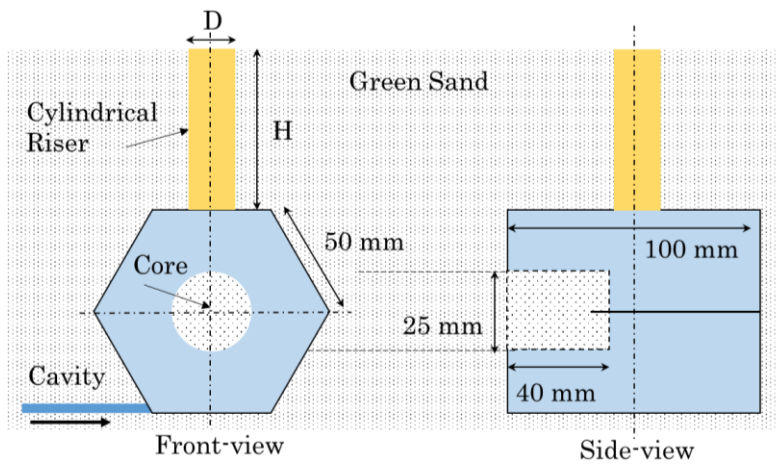

Figure 1. Q1
1. In order to reduce shrinkage-related defects, risers are used in metal casting. In one such case, a regular hexagonal prism-type mould cavity is used on which an open-type cylindrical riser is attached. The side of the hexagonal cavity is 50 mm, while its width is 100 mm (as shown in Figure 1.Q2). A cylindrical core of diameter 25 mm, and length of 40 mm is kept inside the cavity to create an internal feature. Neglecting the core-print/chaplets, find the dimensions of the riser if the ratio of diameter to height (D:H) is 3:4. Ignore the foot print area of riser on the mould cavity. [10]